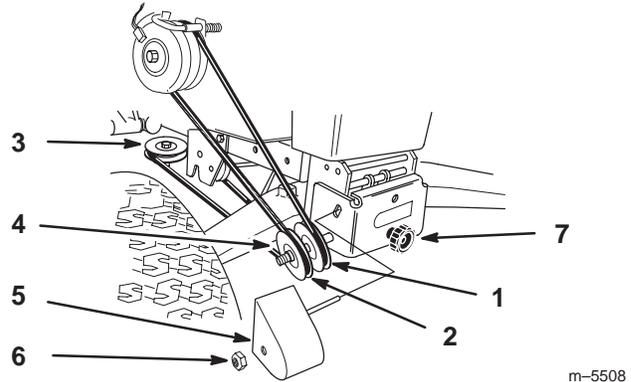

Figure 8
- Route belt around V and flat pulleys and loop over center mower spindle, top pulley.(Fig. 8).
- Check that spacer is on shaft and install belt cover with rod in hole. Secure with locknut (Fig. 8).
- Turn knob counterclockwise to tighten belt (Fig. 8). Tighten until there is 1 in. (26 mm) belt movement between engine clutch and idler pulley when slight pressure is applied to the belt.